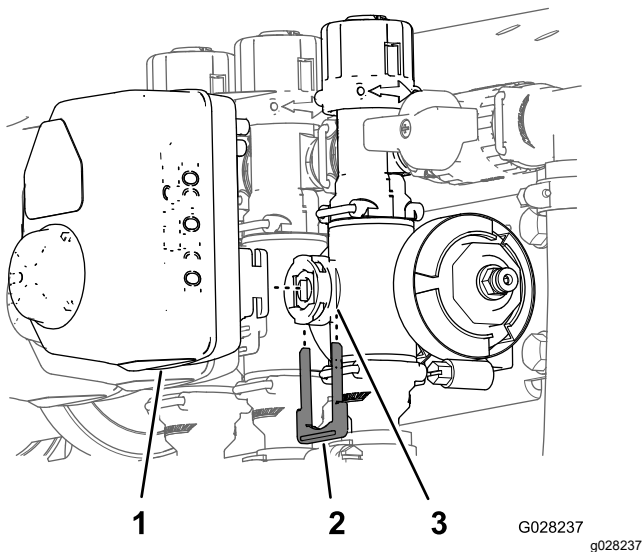

Figure 13
1. Remove the retainer that secures the actuator to the manifold valve for the section valve or agitation valve (Figure 13).
8. Install the actuators removed in Figure 13 to the manifold valve using the previously-removed retainers.